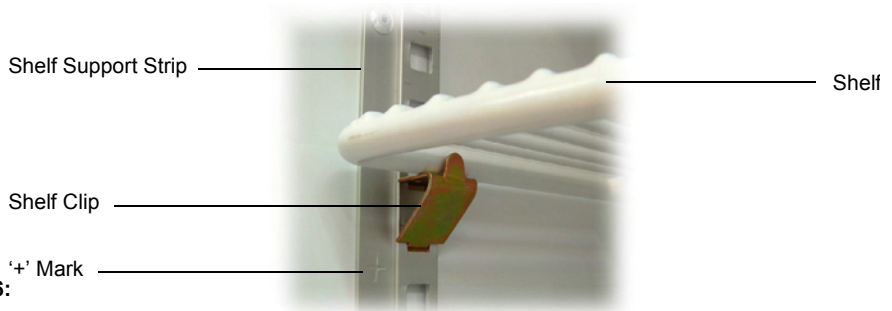

Figure 6:
2. Establish the desired position for the shelves and securely engage a shelf clip in each of the shelf support strips (see Figure 6 below).